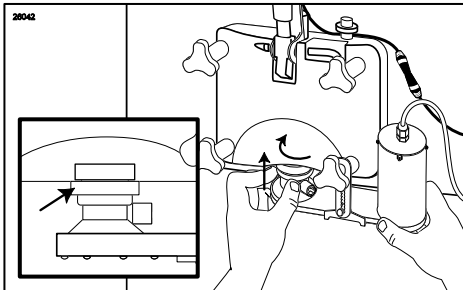

Figure 135
3. Hang the Suspension Bracket on the lower door post and install the Injector Assembly on the preferred side of the freezer. Install the Injector Head locking ring fully over the Spout Adapter so that the locking collar covers the tabs on the Adapter and rotate the locking collar to secure. (See Figure 135.)